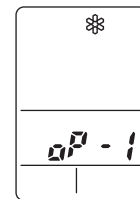

Fig. 30
- d) ✱ appears and “oP-1” blinking in the remote controller clock display area. (Fig. 30)